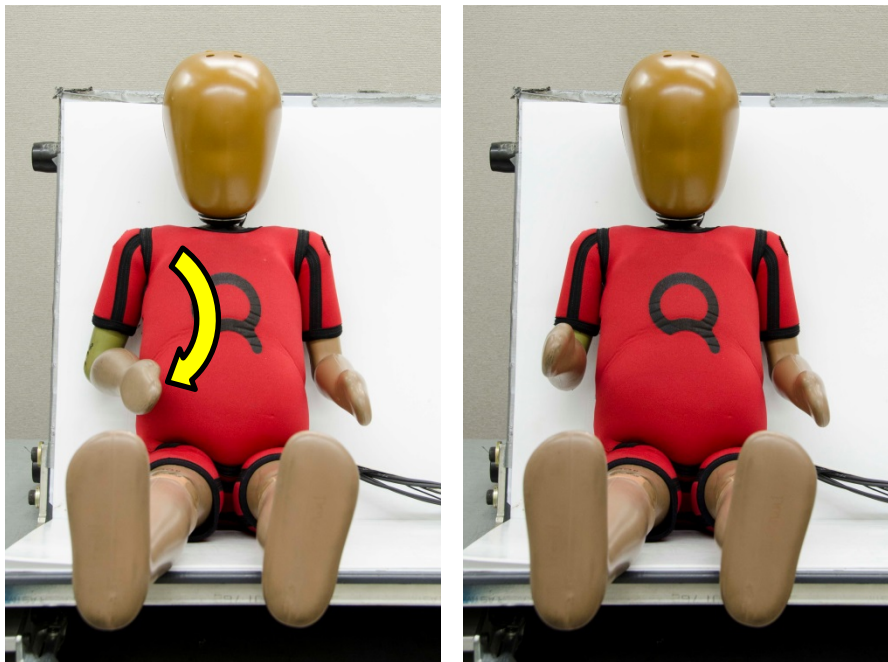

Figure 71. Setting the arm parallel to sagittal plane for shoulder tests
- Assure that the lower arm is parallel to the sagittal plane (Figure 71).